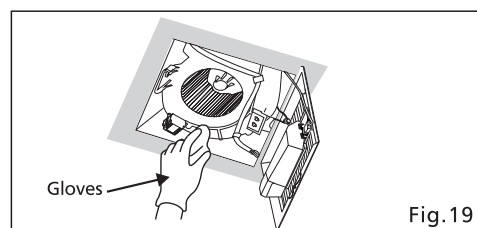

Fig.19
4. Using a cloth dampened with kitchen detergent, remove any dirt from fan body. Wipe dry with clean cloth. (Fig.19)